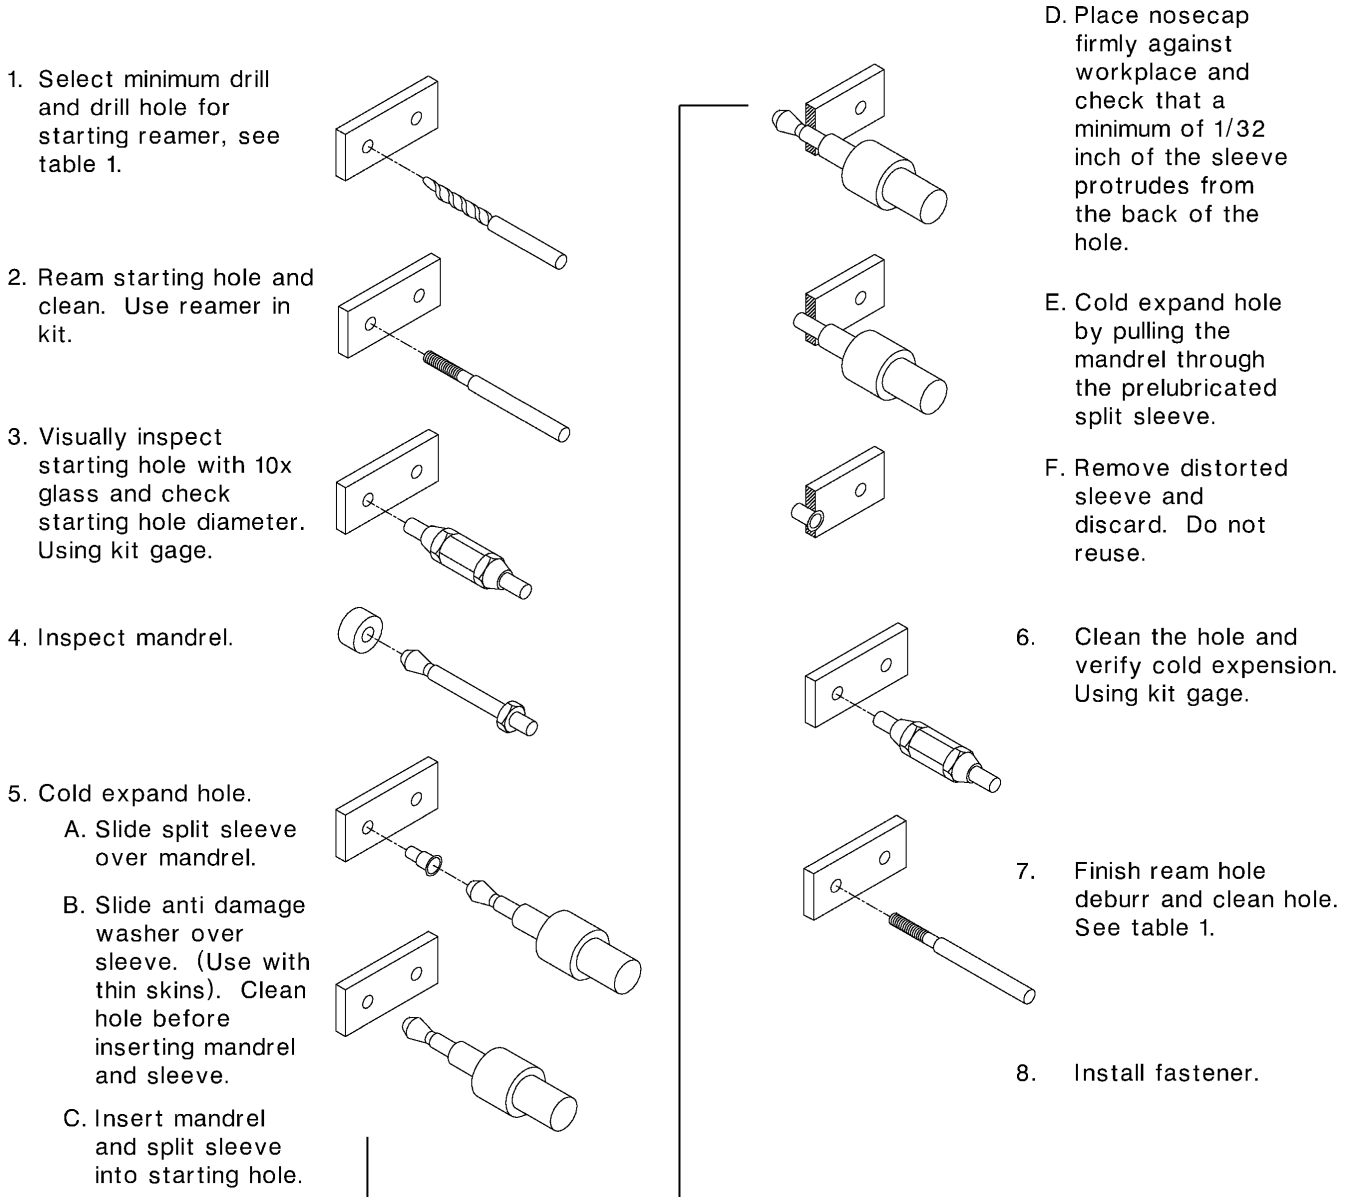

Figure 6
6. Column 6, "Start Ream Gage Check", is a check off column that indicates the start ream hole has been checked with the combination gage supplied in the kit and that it meets the size criteria (step 3 of figure 6).
7. Column 7, "Post Cx Gage Check", is a check off column that indicates the expanded hole has been checked with the combination gage supplied in the kit (step 6 of figure 6).